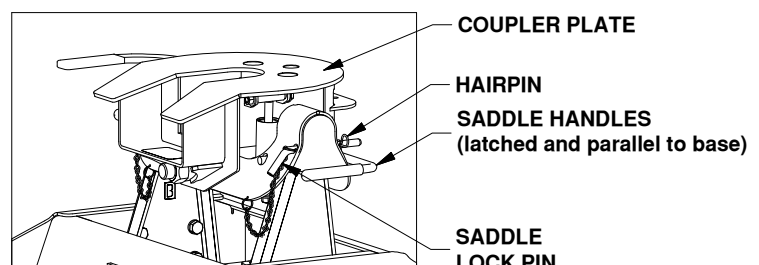

Figure G1: Coupler installed on base.
1. **Place coupler.** Lubricate the polyurethane bushings on top of pivot arms with high grade lithium grease (available at your local hardware/automotive store). Place the coupler over the pivot arms. (The saddle handles should be parallel with the base in the latched position.) Place the saddle lock pins through the saddle, then insert the hairpins through the holes in the end of the saddle lock pins to secure the coupler to the pivot arms, see Figure G1.